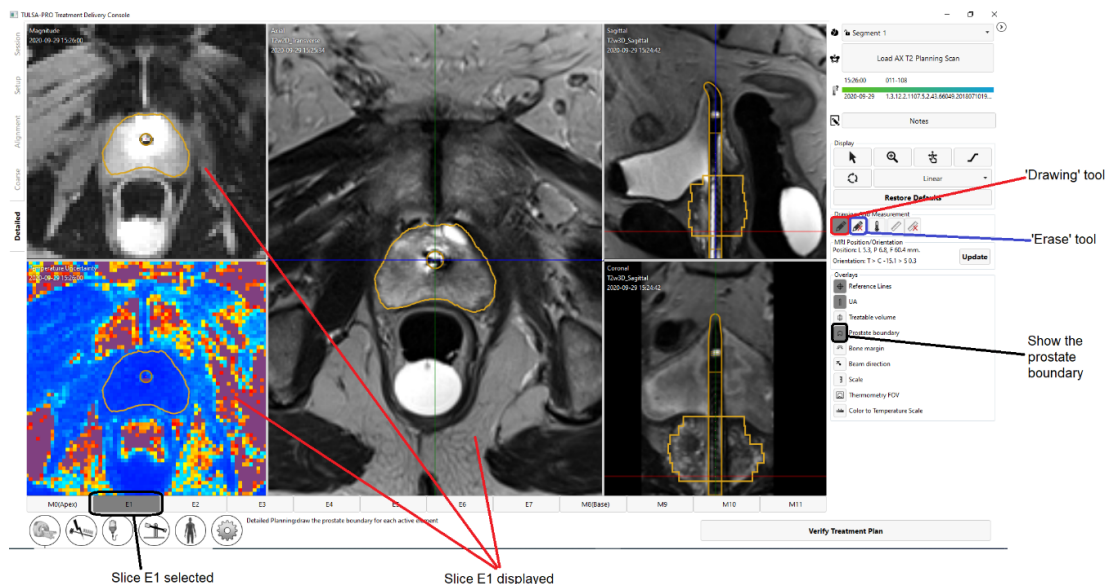

Figure 36: Detailed Planning after drawing boundaries
- To draw the prostate boundary, select the drawing tool and outline the tissue to be ablated on each slice based on the corresponding AX T2 and THERM magnitude images (Figure 36). You can select individual slices by clicking on the numbered tab at the bottom of the screen or by pressing the left and right arrow keys on the keyboard. Use the sagittal and coronal views of the SAG T2 images to verify the intended ablation zone in three dimensions.